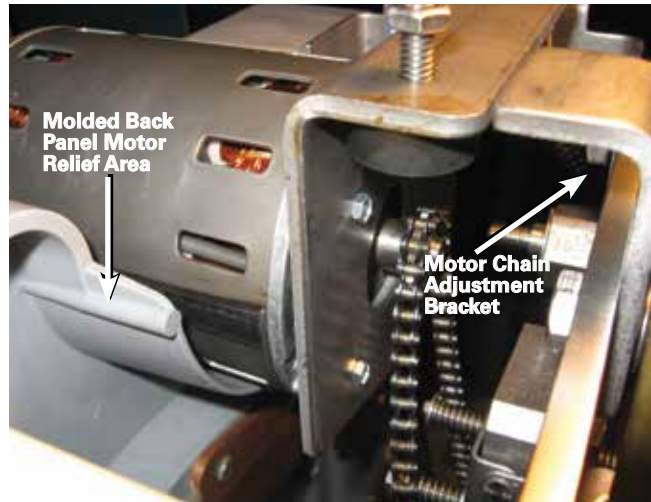

Figure 14. Locating motor.
- Place the motor into the motor relief area of the molded back panel. Put the chain on the motor sprocket engaging the sprocket teeth. Make sure the chain is fully engaged around the bottom of the drive sprocket gear. If there are any loose links around the bottom of the gear, the motor will not fit properly. Refer to Figure 14.